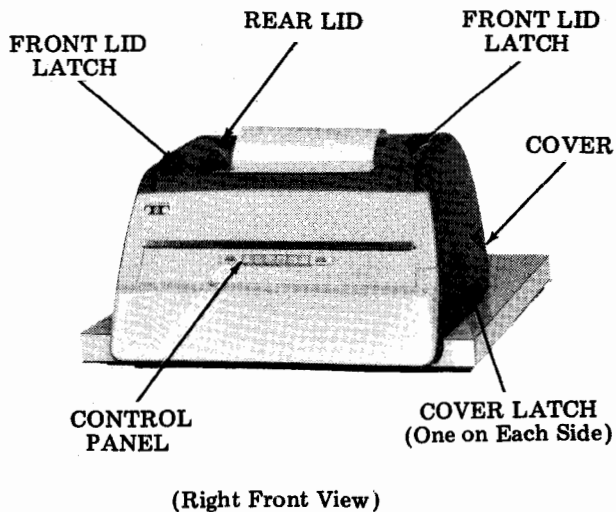

Figure 3 - Cover Assembly
2.05 Open the cover (Figure 3) by depressing the two cover latches (one on each side) and lift the front cover upward. If desired, remove the cover from the pan by the following procedure.